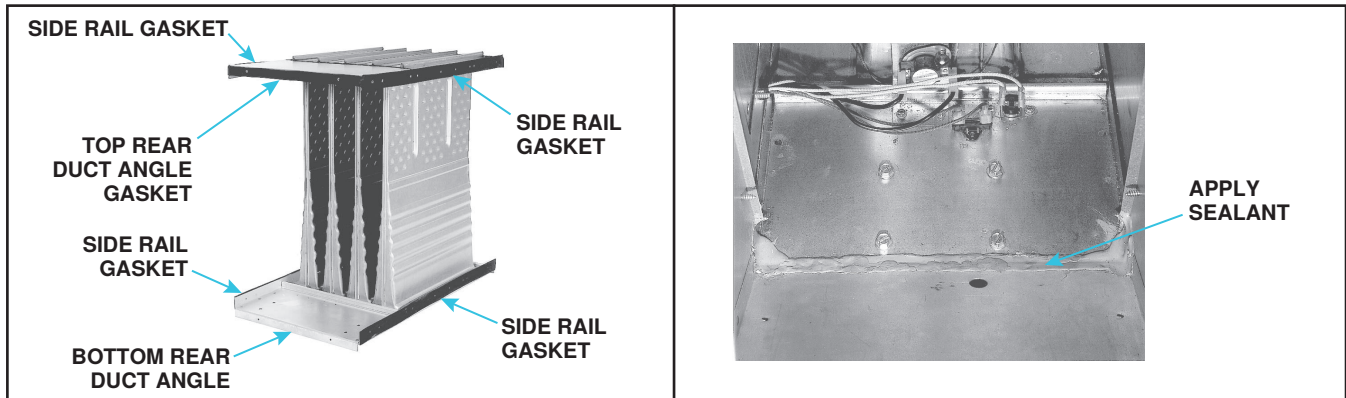
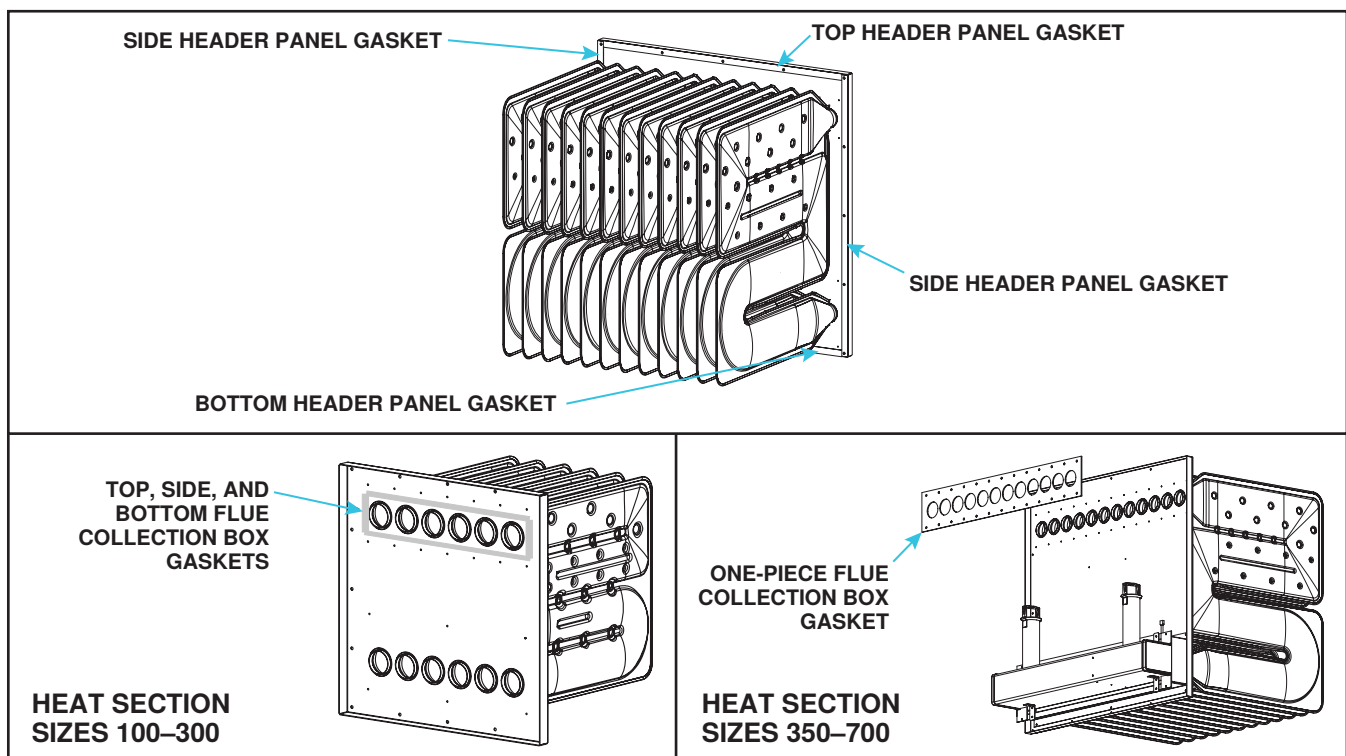
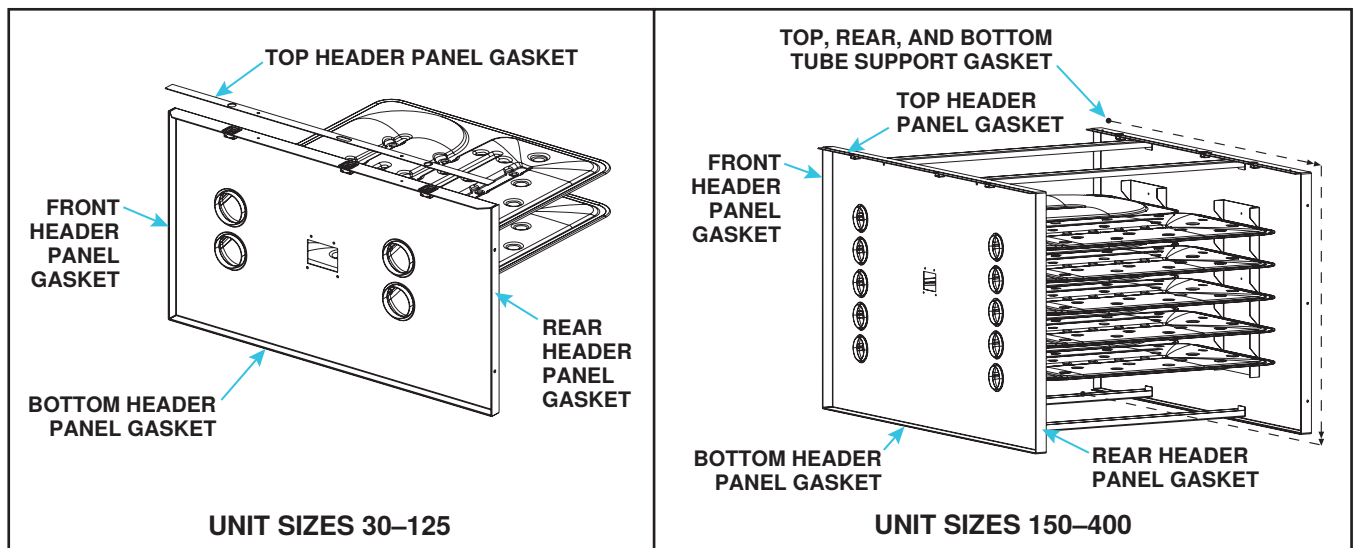
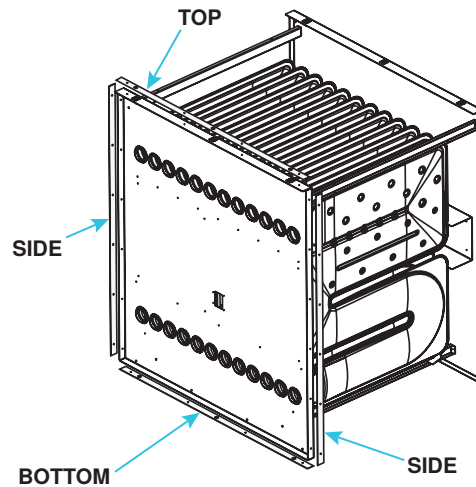

Figure 36. Heat Exchanger Gaskets—Models B, BE, F, and FE
Figure 37. Heat Exchanger Gaskets—Models RDCA and RDDA
Figure 38. Heat Exchanger Gaskets—Models ADP, UBX, UBXC, UBZ, UDAP, UDAS, UDBP, UDBS, UDX, UDXC, and UDZ
Figure 39. Heat Exchanger Gaskets—Model LDAP
- a. Position gaskets as shown in Figure 36, Figure 37, Figure 38, or Figure 39.
7. For models B, BE, F, and FE, remove and save screws that secure existing burner support to burner rack and remove support. Install replacement burner support shipped with replacement heat exchanger on burner rack and secure using existing screws. For models B and BE, apply silicone rubber sealant across entire length of bottom rear duct angle joint to seal joint as shown in Figure 36.